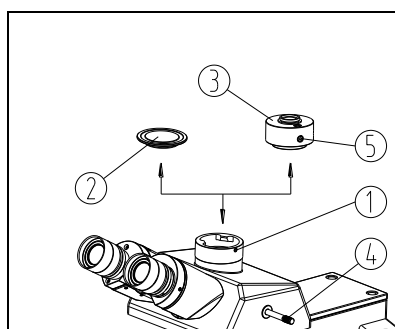

Fig.27
- (1) Loosen the lock screw ① of trinocular head, and take out the dust-cover ② (See Fig.27).
- (2) Take down the dust-cover of the TV adapter ③. Insert the TV adapter into the trinocular head as shown in the figure and screw down the lock screw ①.
- (3) Screw CCD or video camera into CTV, make sure it is locking.
- (4) For binocular observation, pull the light path selecting pole ④ to the outmost and observe the image. If the image is unclear, rotate the adjustment crew ⑤ until it is clear.